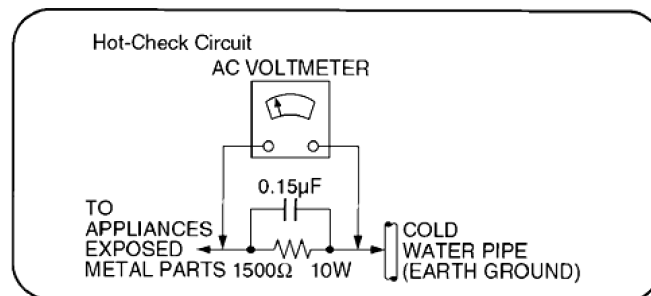

Fig. 1
1.1.2. Leakage Current Hot Check (See Figure 1)
2. Connect a 1.5kW, 10 watts resistor, in parallel with a 0.15 μ F capacitor, between each exposed metallic part on the set and a good earth ground such as a water pipe, as shown in Figure 1.
2. To prevent the breakdown of the laser diode, an antistatic shorting pin is inserted into the flexible board (FFC board). (Fig. 1)